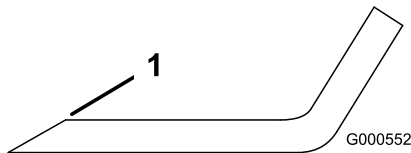

Figure 47
**Note:** If the blade is not balanced, file some metal off the end of the sail area only (Figure 47).
1. Use a file to sharpen the cutting edge at both ends of the blade (Figure 47).